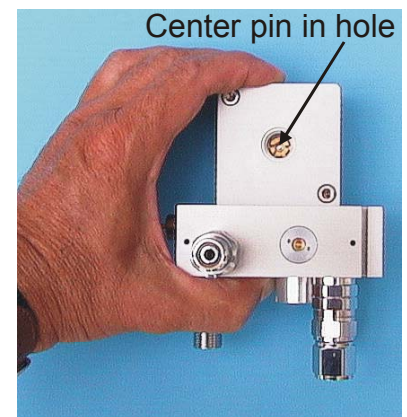

Figure 6
- 5.2.10. With the chamber assembly input/output orifices facing you, take the bottom half of the blender, lay it on it's side and hold the chamber assembly firmly against it so as to align the bottoms of the two chamber halves in a flat plane (see Figure 6).